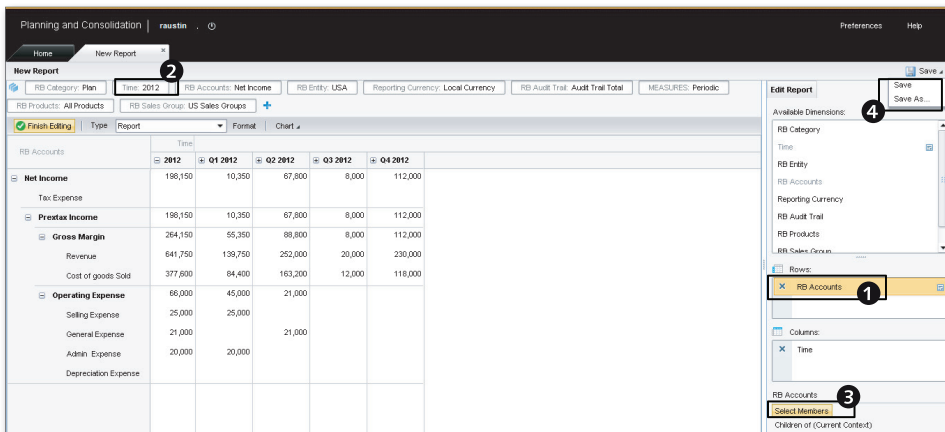

Figure 5.34 Creating a Web Report—Part C
4. Drag the dimensions required to the rows and columns areas. We have selected the RB_ACCOUNTS dimension for the rows (Figure 5.34, ①). Select 2012.TOTAL in the scope context for the Time dimension (Figure 5.34, ②), and then drag the TIME dimension to the columns.
5. Highlight the dimension in the row, and click on SELECT MEMBERS to select the members for that dimension (Figure 5.34, ③).
8. When you are ready to save the report, click on **SAVE** (refer back to Figure 5.34, **4**).